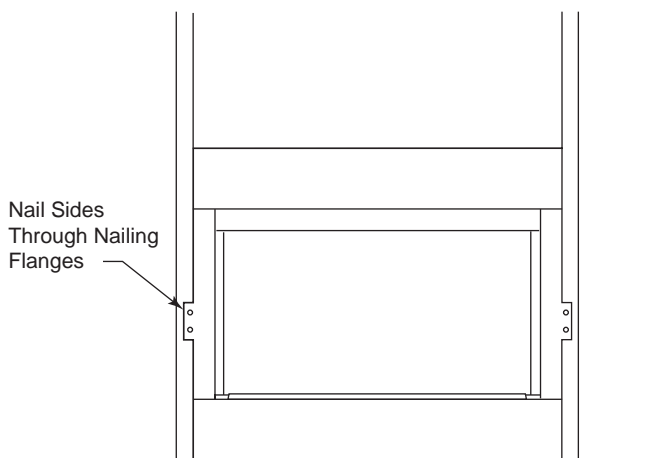

Figure 8 -
4. Anchor firebox to the side framing members using 8d nails or other suitable fasteners. *Figure 8*